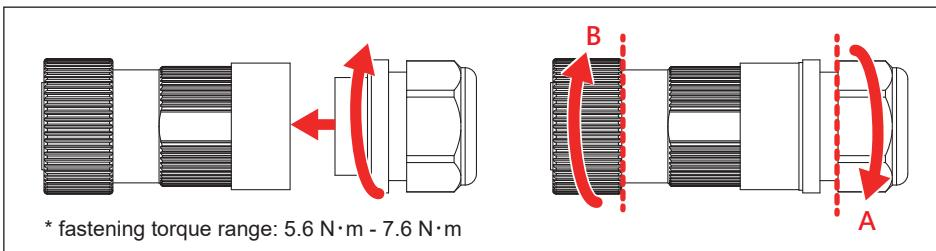

Figure 3-11 : Assemble the AC plug
1. The packing has two parts of AC Plug, please assemble it with recommended torque, and then rotate the plug to release part A & B. (**Figure 3-11**)